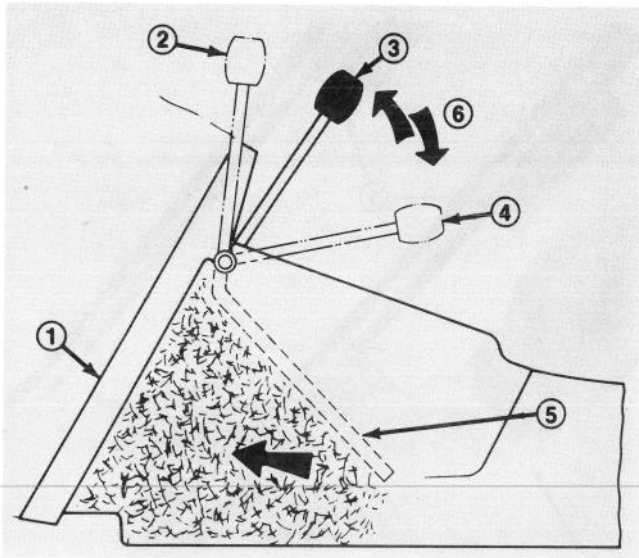

Figure 23
**IMPORTANT:** If mulching door of mower cannot be closed because grass clippings clog the discharge area, move mulching door gently, back and forth. Do this until clippings are pushed into the bag and mulching door can be closed completely (Fig. 23). **DO NOT FORCE THE MULCHING DOOR CLOSED** because door or handle may be damaged by the compacted grass.